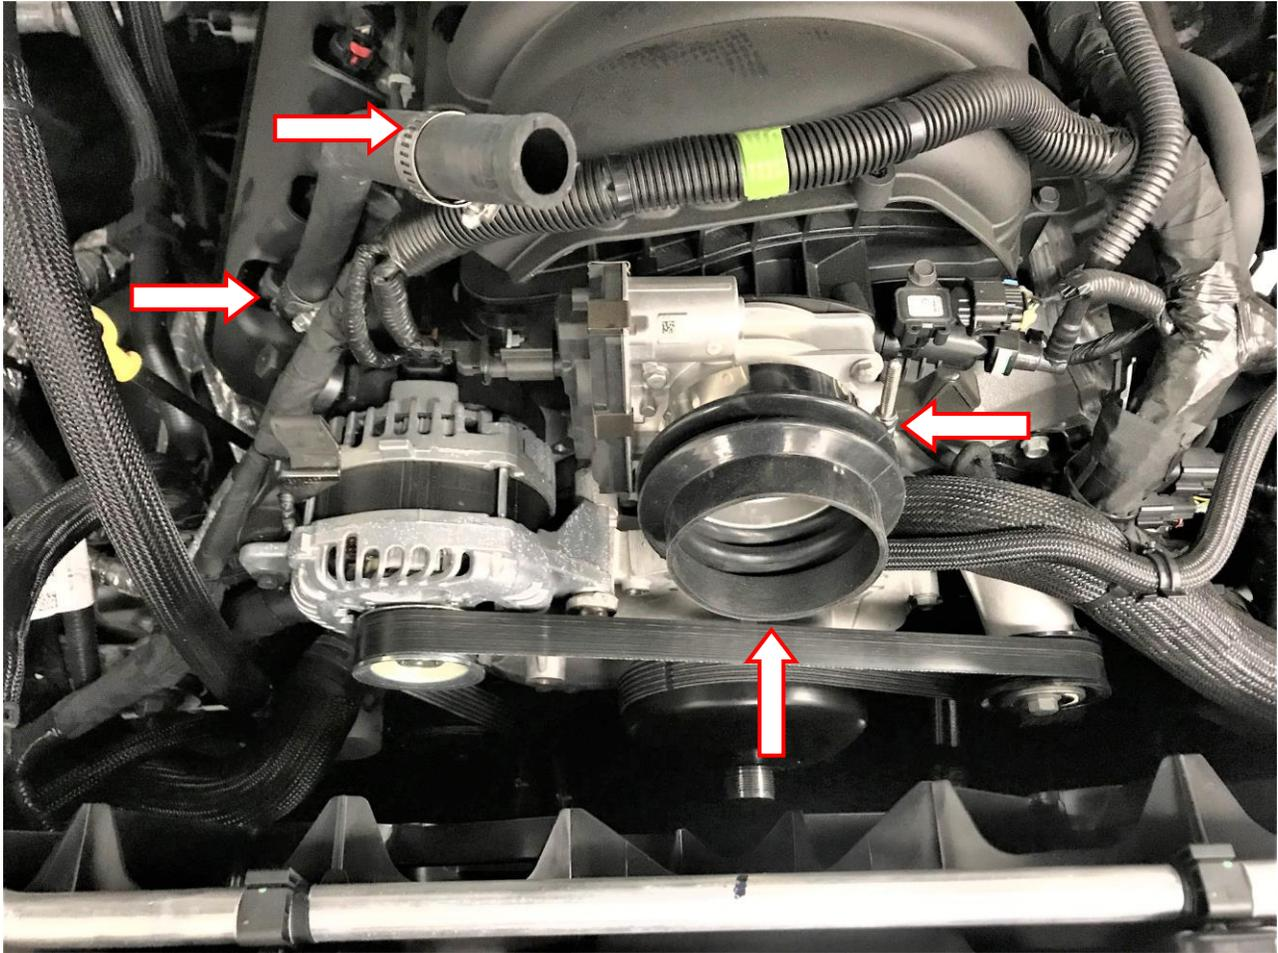

Figure 7
22. Install the supplied silicone coupling and (x1) T-bolt clamp to the throttle body. Tighten the clamp **(Figure 7)**.
23. Install the provided hose over the CCV vent and secure with one of the provided worm clamps **(Figure 7)**.
24. Slip the remaining hose clap over the rubber hose as shown **(Figure 7)**.
25. Install the iNTECH air filter into the iNTECH housing by firmly pressing into housing until filter is fully seated **(Figure 7)**.